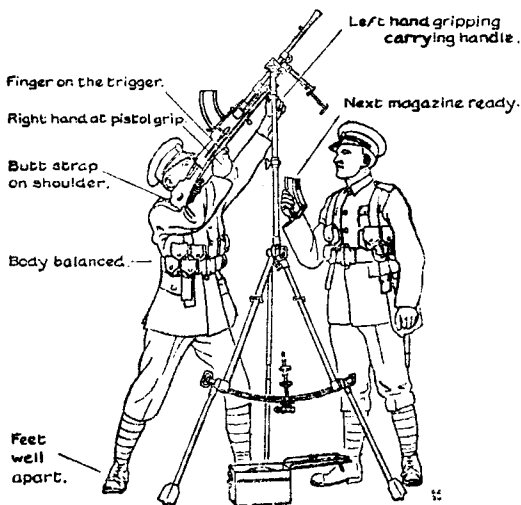

FIG. 13.—Holding.
4. **Holding.** (see Fig. 13).—